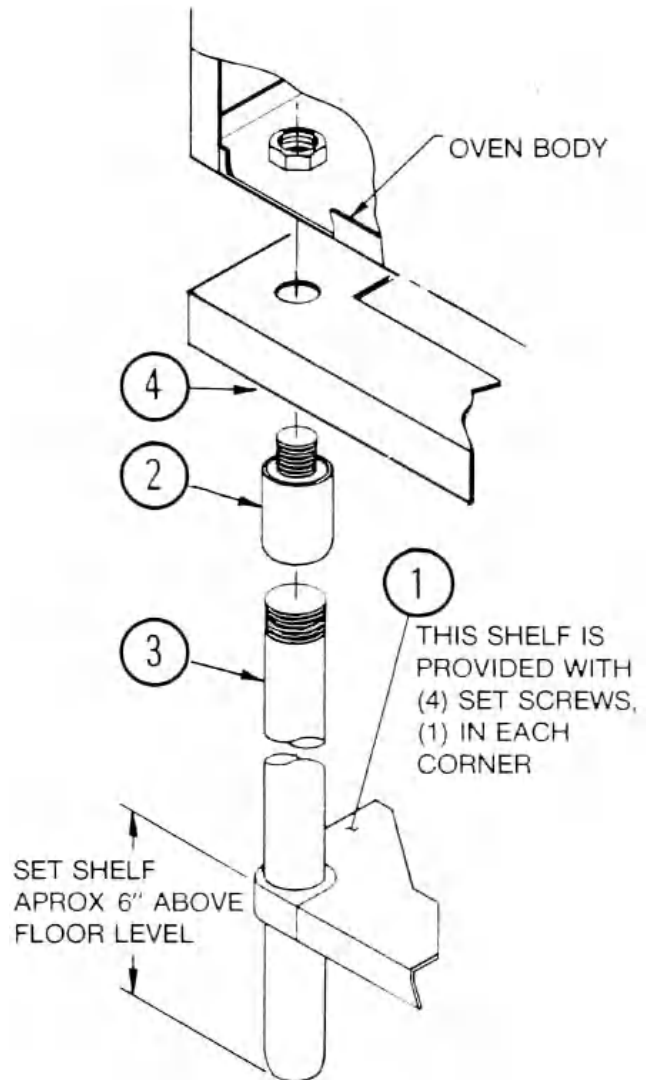

Fig. 1
1. Insert legs (*Fig. 1 No. 3*) through holes in shelf (*Fig. 1 No. 1*) Do not tighten set screws in corners of shelf.
2. Screw leg tops (*Fig. 1 No. 2*) onto legs. (*Fig. 1 No. 3*)
3. Insert leg tops (*Fig. 1 No. 2*) through holes in angle iron frame (*Fig. 1 No. 4*) into weld nuts in bottom of oven.
4. Screw leg tops (*Fig. 1 No. 2*) into weld nuts by turning leg and top assemblies.
5. Raise shelf (*Fig. 1 No. 1*) to desired height and tighten set screws in shelf corners.